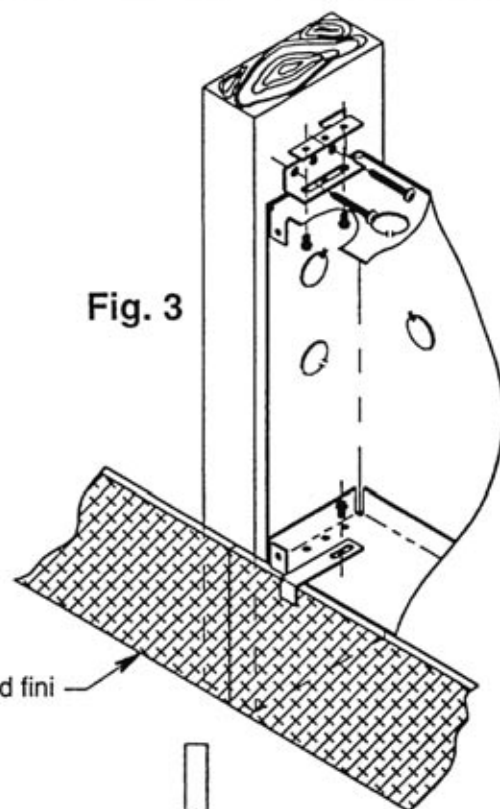

Fig. 3
Use a 3-hole bracket as a nut. Drive #8 screws (2) through the box, through the slot on the adjustable bracket, and into the 3-hole bracket. Match the pattern on the 3-hole bracket to the pattern on the housing. Use the two holes closest to the opening for ceilings/walls with a thickness greater than 1/2", use the farthest hole for thinner ceiling/walls. See Fig. 3.